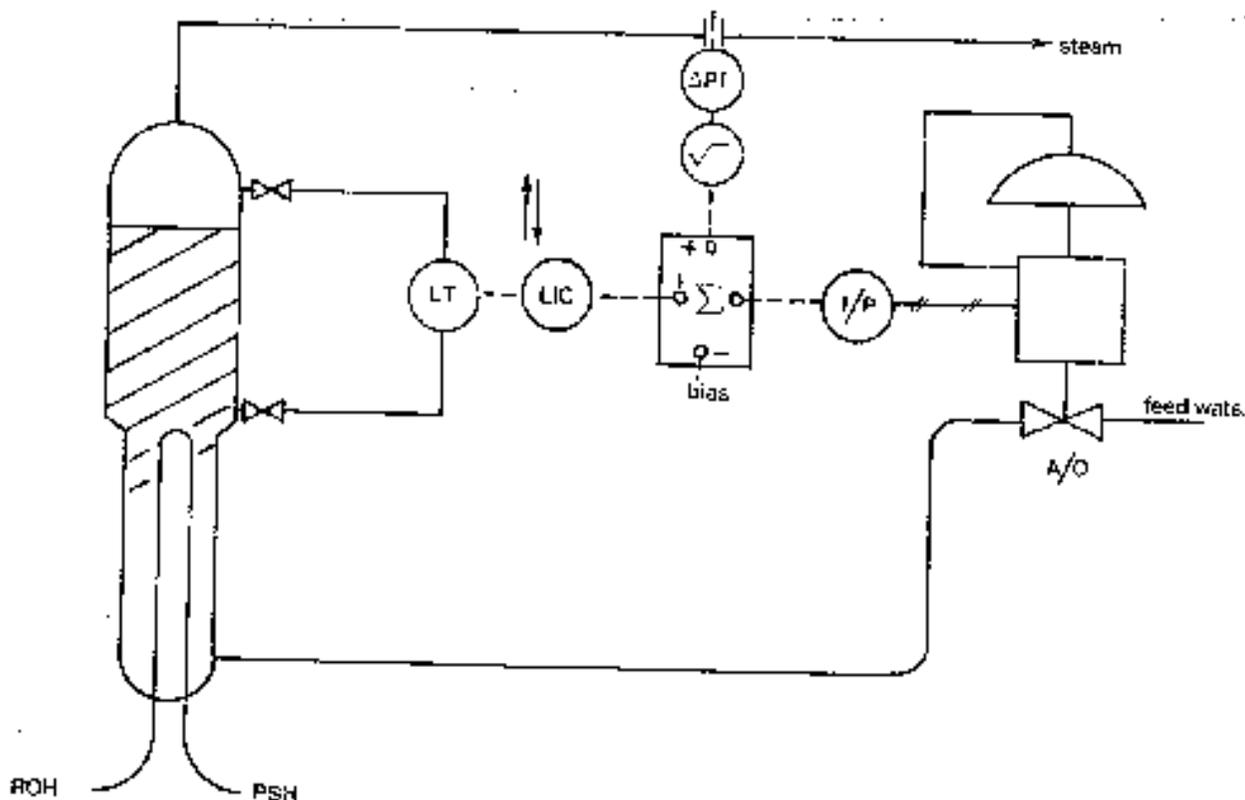

Figure 4: Two-Element (2-e) Feedwater Control System
- The *summing amplifier* (Figure 4) allows the *level control* and *feedforward steam flow* signals to be combined to develop the final valve lift signal.